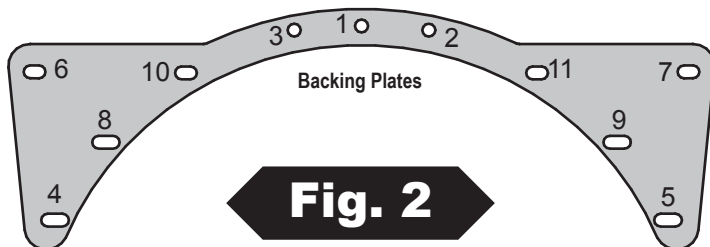

Fig. 2
1. Align slide sections and the backing plates together on the ground (**Fig. 1**). Begin attaching two slide sections together by securing the bolts in place finger tight (see **Fig. 2** for proper Bolt Sequence). Following this pattern install (1) bolt, (2) washers and (1) lock-nut per hole (see **Fig. 1**). Once all (11) bolts, (22) flat washers and (11) lock-nuts are in place go back and tighten all hardware with appropriate tools.